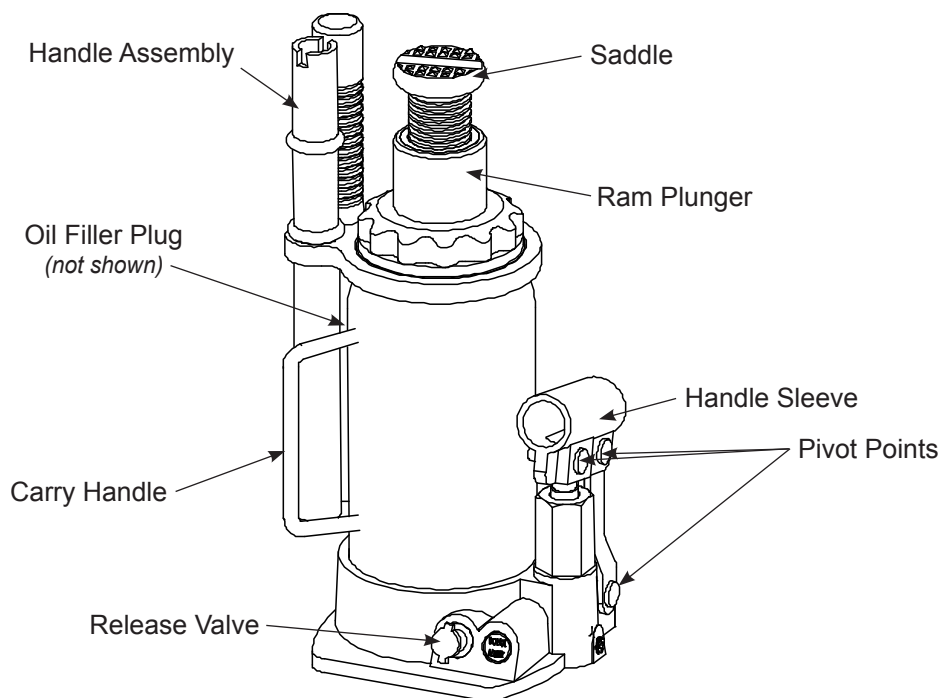

Figure 1 - Typical Bottle Jack Nomenclature
1. Verify that the product and application are compatible, if in doubt call Omega technical service (888) 332-6419.
5. With ram plunger fully retracted and jack in its upright, level position (Fig 1), locate and remove the oil filler plug. Insert the handle into the handle sleeve, then pump 6 to 8 strokes. Ensure the oil level is just below the oil filler hole. Reinstall the oil filler plug.